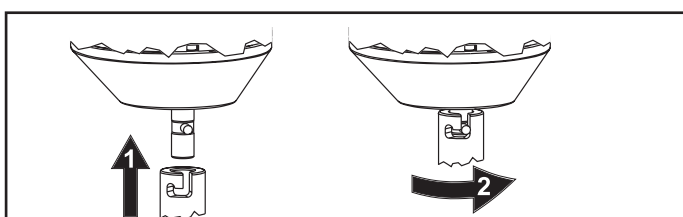

Fig. 4 Mounting of tool in the bayonet shaft.
C. Place a tool in the bayonet shaft and turn it counter-clockwise to lock it in position (fig. 4).